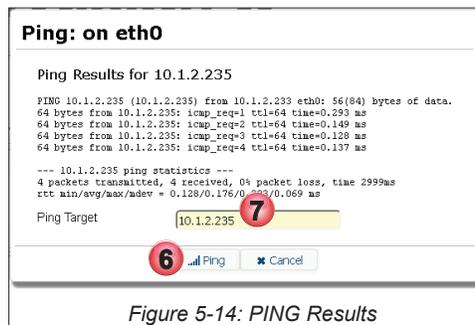

Figure 5-14: PING Results
6. The ping results are shown, Figure 5-14. To continue with another ping to this address, click **Ping** again.